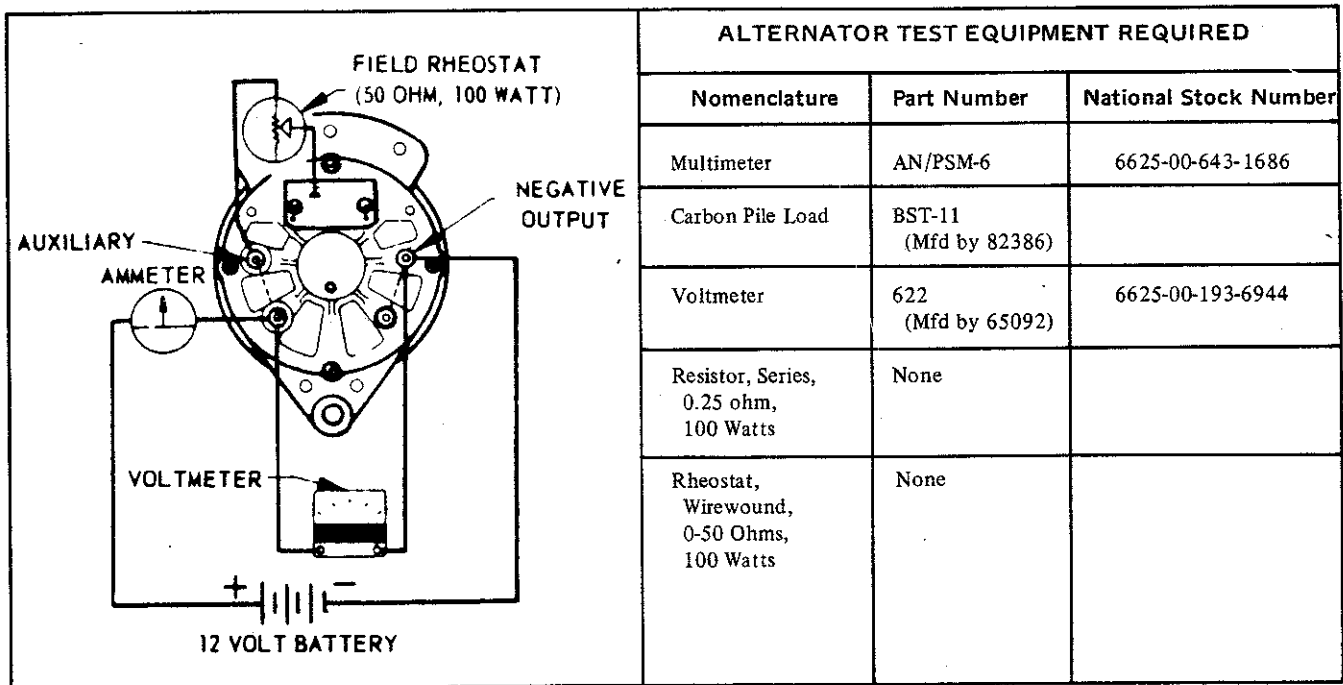

Figure 6-3. Alternator Charging Test
- (3) Assemble brush assembly (19), dust shield (18), cover (16), and install two screws (17). Connect voltage regulator leads and attach voltage regulator (14) with three screws (15).
- (4) Press bearing (12) on rotor assembly (13). Press bearing (11) into housing (7) and install retainer (10). Assemble front housing (7) onto rotor assembly (13) (threaded shaft end). Assemble rotor assembly (13) with housing (7) into stator (26) and housing (32) subassembly. Install four through bolts (9) and square nuts (8).
- (5) Install fan spacer (6), key (4), fan (5), pulley (1), and secure on rotor shaft with washer (3) and nut (2).
e. Testing After Assembly. With regulator (14, figure 8-11) and isolation diode assembly (20) removed, the alternator may be tested to determine charging ability. Mount the alternator on a test bench, or on the engine, and make electrical connections shown on figure 6-3. Set rheostat at maximum resistance. Operate the alternator, in proper direction of rotation, at 3000 to 4000 rpm. Gradually reduce resistance of rheostat and observe that charging starts. Reduce resistance until output of 35 amperes is obtained. Stop test immediately after reaching 35-amperes output. Replace the alternator if output is not at least 25 amperes. Install voltage regulator (14, figure 8-11) and isolation diode assembly before further testing as described below.